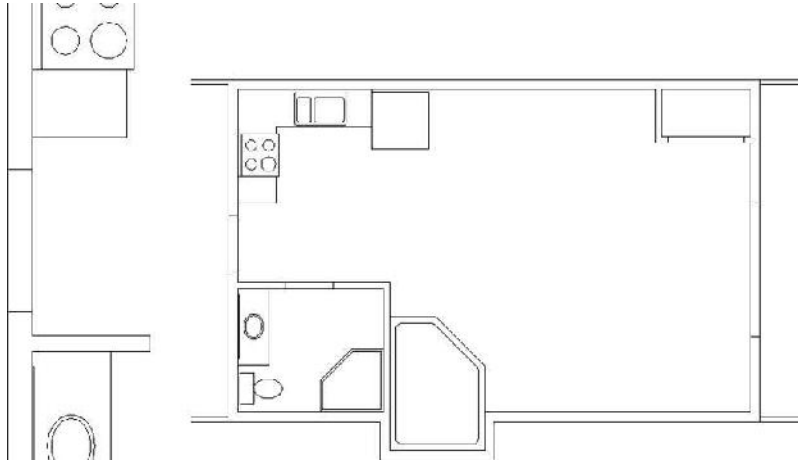

FIGURE 6.38: The header lines drawn for the back door opening (left) and for the rest of the doorway openings (right)
13. With the same technique used in steps 6 through 12, draw the lower header line across the opening. You can see the results in the image on the left in Figure 6.38.
14. Keep using the same procedure to draw the rest of the header lines for the remaining three doorway openings. The floor plan will look like the image on the right in Figure 6.38.